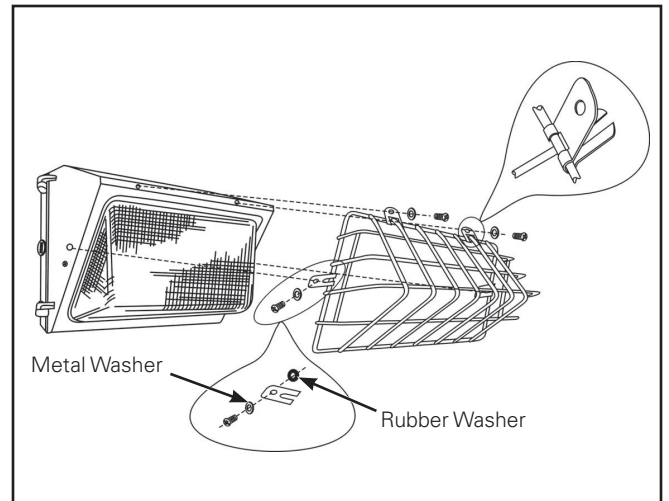

Figure 3. and 4.
1. Clip the wire guard plates on the wire guard at proper position. (Figure 3 and Figure 4.)
3. Install the wire guard according to (Figure 3.).